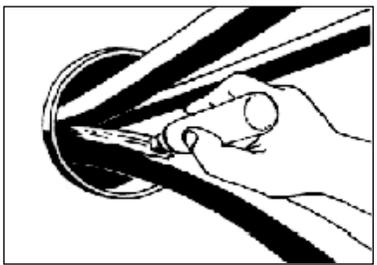

Figure 17
5. Lubricate the cables generously where the cables come together. (Figure 17)